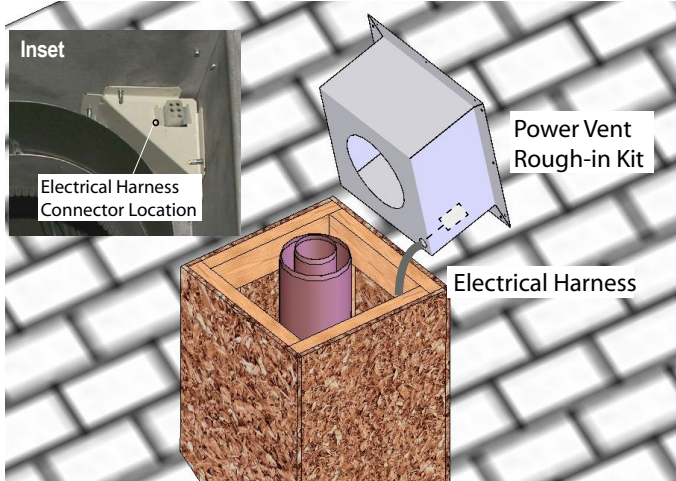

Figure 11b. Installing the Rough-in Kit.
Step 3: Install the Power Vent Rough-in Kit (EPVRRF). Pull wire harness through the supplied hole in the bottom corner of the rough-in box and snap into the slot provided, see **Figure 11b** inset.